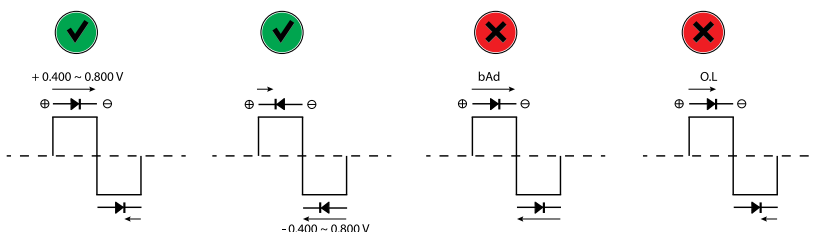

Figure 8.12 Smart diode operation.
7. Refer to Figure 8.12, below, for a visual explanation of the test results.